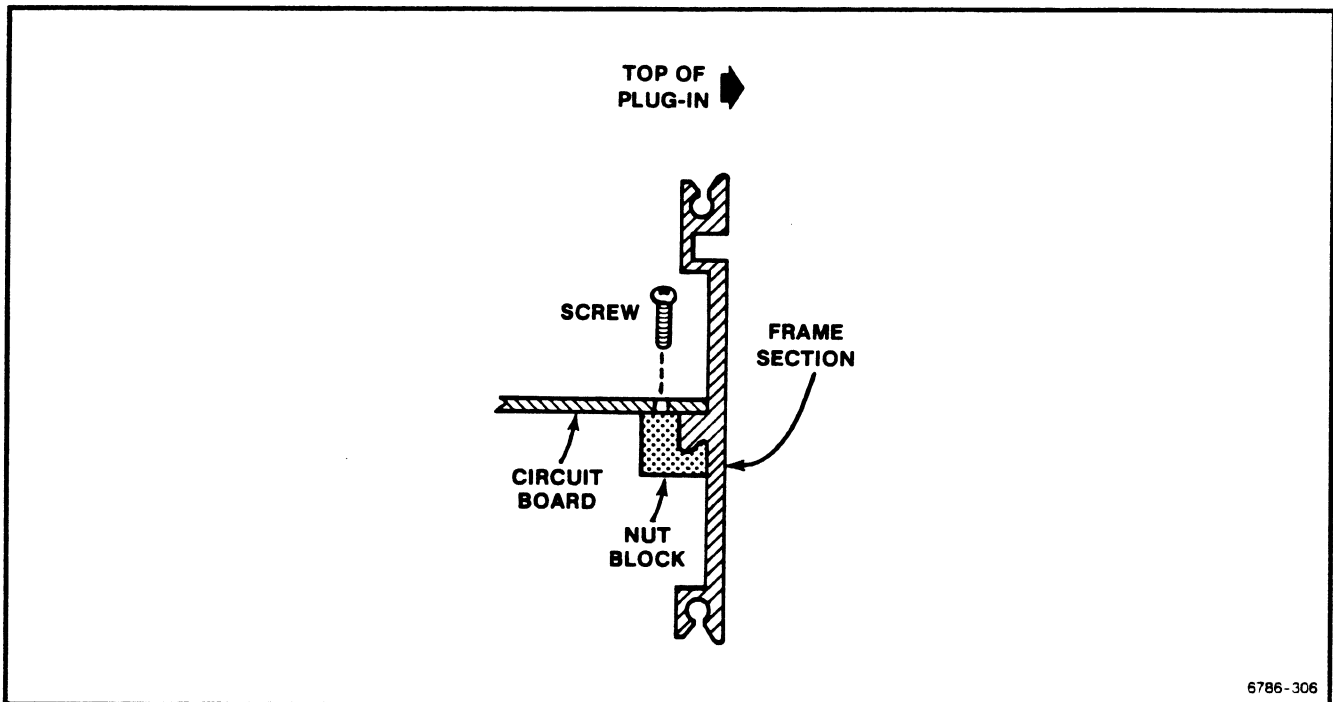

Figure 3-6. Location of a nut block securing the circuit board to the frame section.
4. Use a narrow-shank, Torx T-10 screwdriver to remove the six screws and nut blocks that secure the A1 Main board to the top and bottom frames. Figure 3-6 shows a nut block.